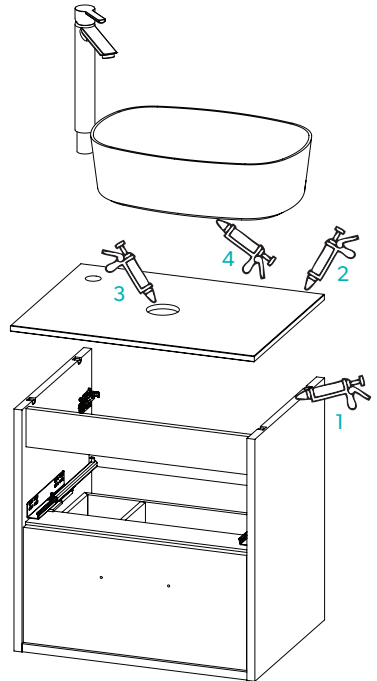

Fig. 3
11. Silicone along back edge of basin/countertop and along the back of the unit and wall as per *Fig. 3.* Allow to set fully.